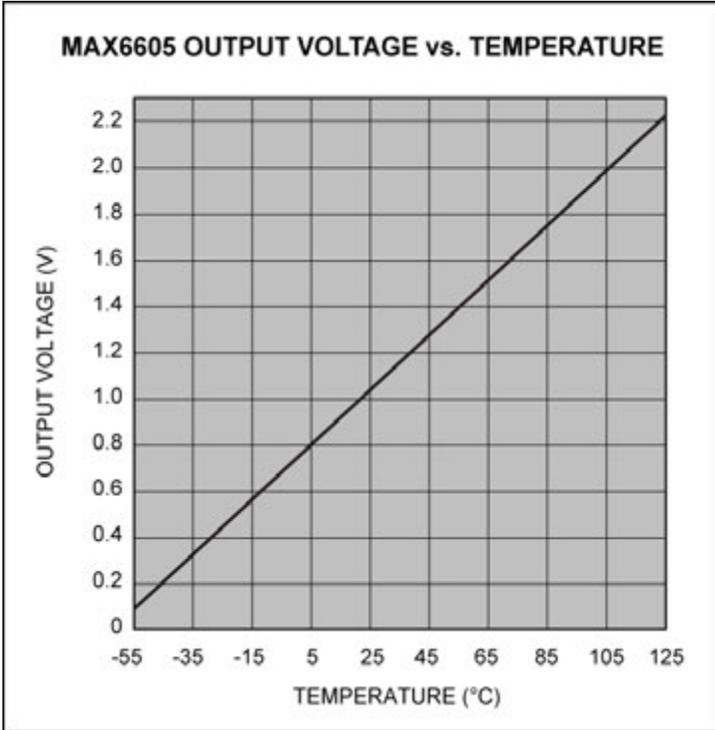
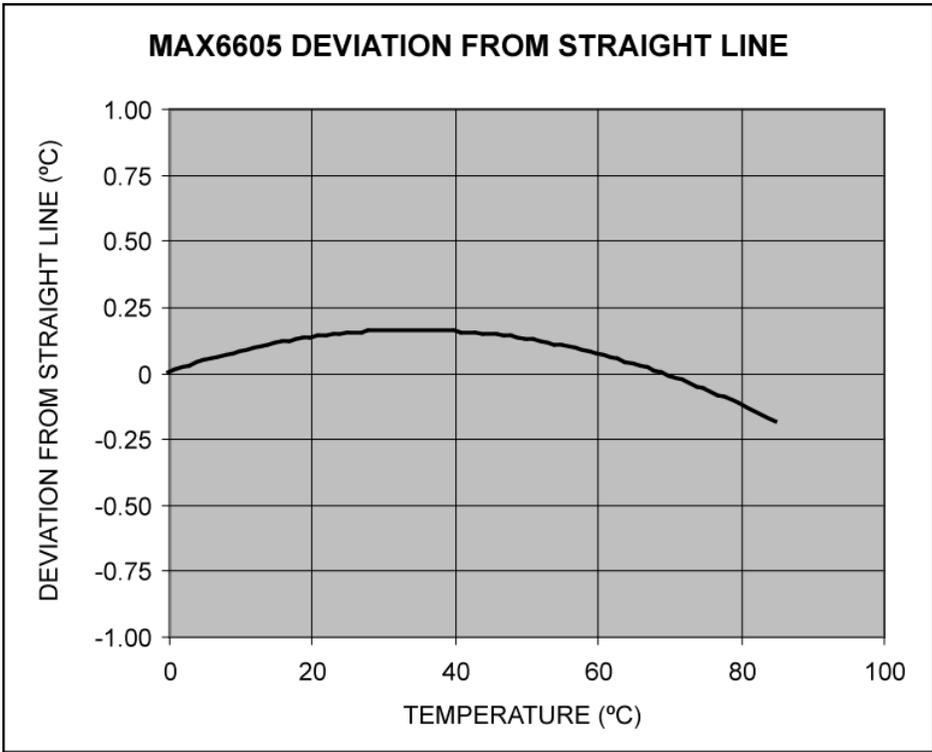

Figure 12. Output voltage vs. temperature for the MAX6605 analog temperature-sensor IC.
Figure 13. The MAX6605 output voltage deviation from a straight line. Linearity from 0 °C to +85°C is approximately  $\pm 0.2^\circ\text{C}$ .
**Figure 12** shows a curve of output voltage vs. temperature for a typical analog temperature sensor, the MAX6605. Note that the curve is quite linear. **Figure 13** shows the deviation from a straight line for this sensor. From 0°C to +85°C, the linearity is within about ±0.2°C, which is quite good compared to thermistors, RTDs, and thermocouples.